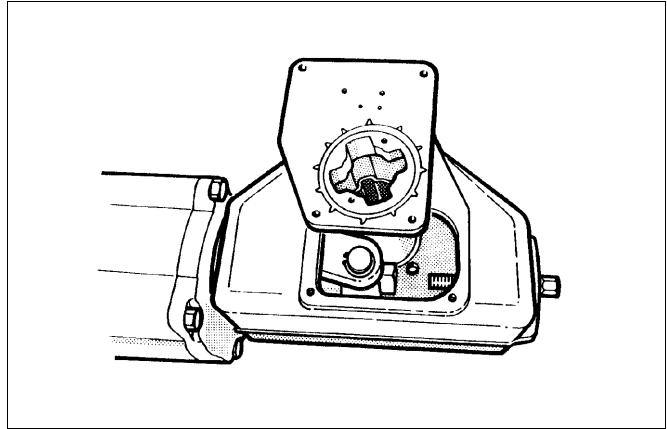

Fig. 14 Mounting the cover on the housing
- ❑ Apply bearing unit screw (29) thread with a sealant, e.g. Loctite 225, and tighten the screw as in Table 1.
- ❑ Fasten the housing cover temporarily so that the secondary shaft bearings function but the linkage can still be seen, see Fig. 14. Note the grounding rings (3A, 4A).